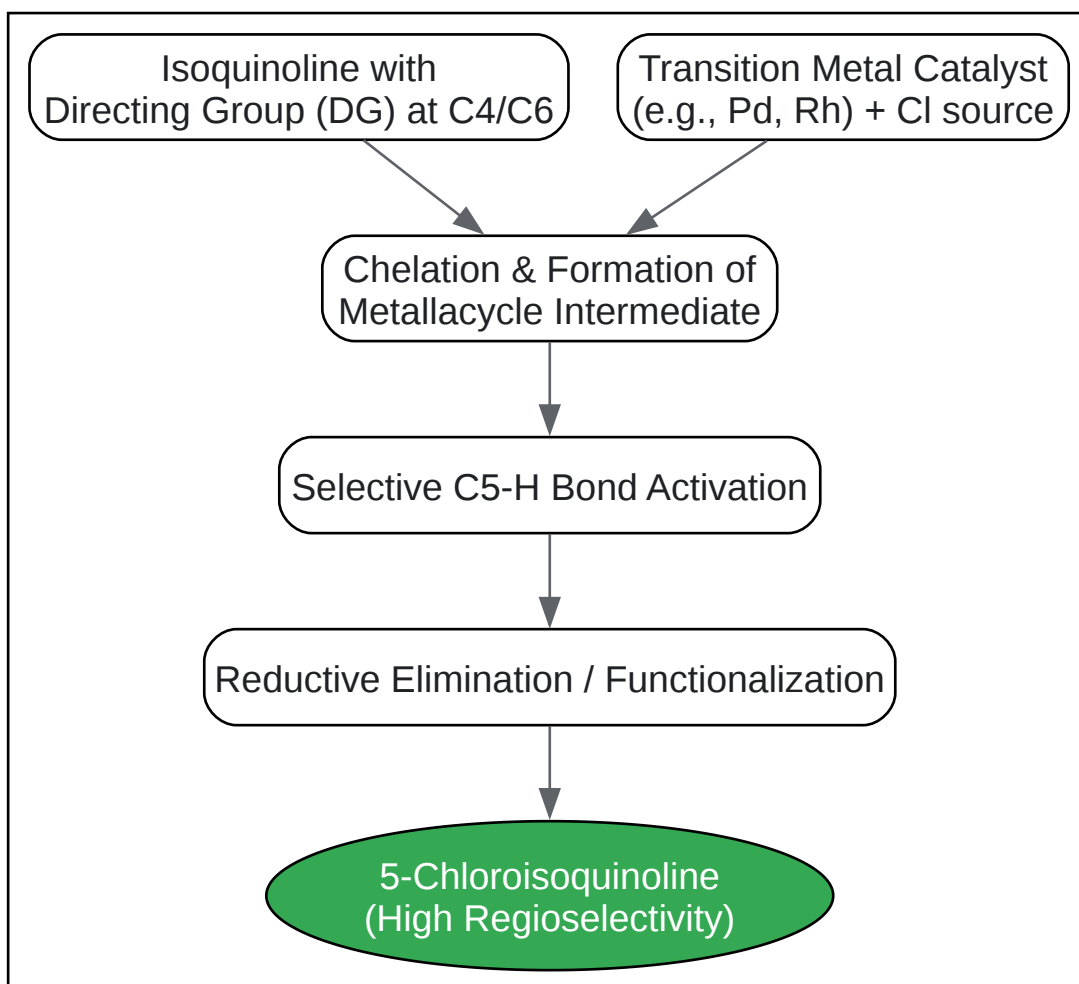

Figure 4: Concept of Directing Group (DG) Strategy
Caption: Figure 4: Concept of Directing Group (DG) Strategy.